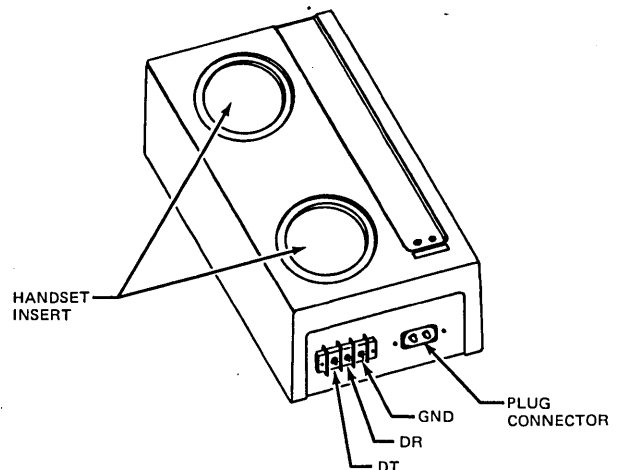

Figure B-6. Acoustic Coupler
- b. If communications connection uses acoustic coupler, connect lugged leads at other end of communications cable to acoustic coupler connections DT and DR (polarity unimportant) (figure B-6).